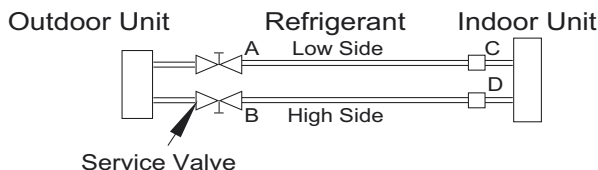

Fig. 11 —Service Valve
3. Fully open the low side of manifold gage (see Fig. 11).